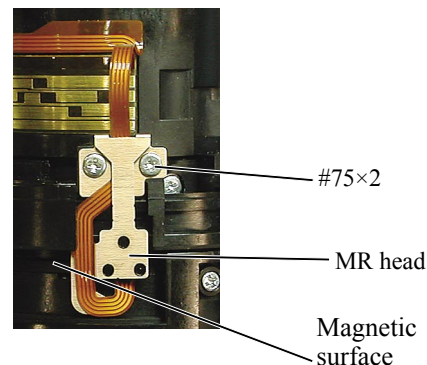

Fig.2
- ⑥ In case the amplitude is small, check if there is deformation in the MR head. If there is, correct the deform of the MR head. However, if such correction is impossible or no deformation is detected, replace the MR sensor unit. (Fig.2)